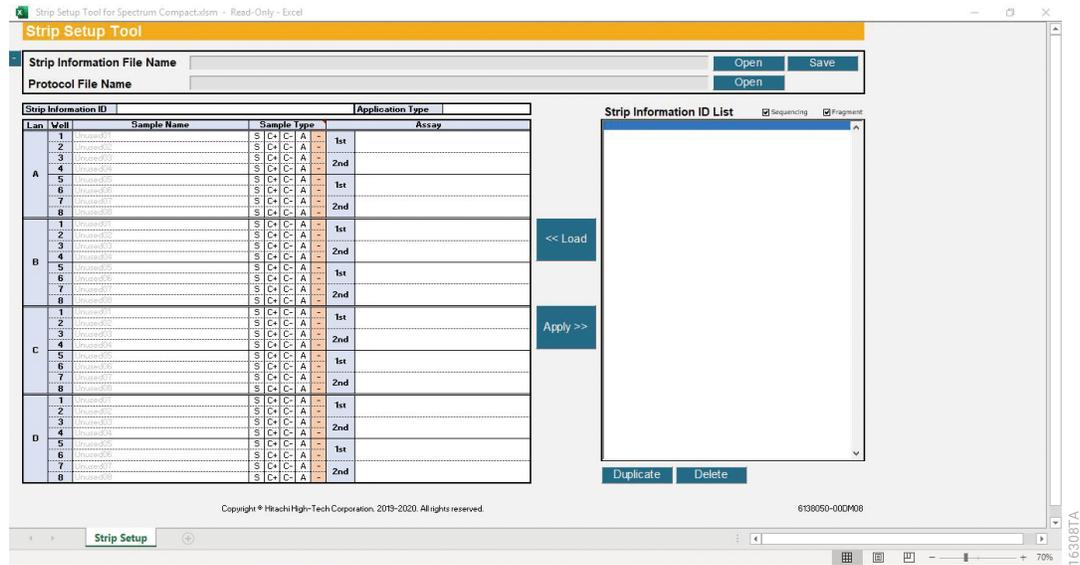
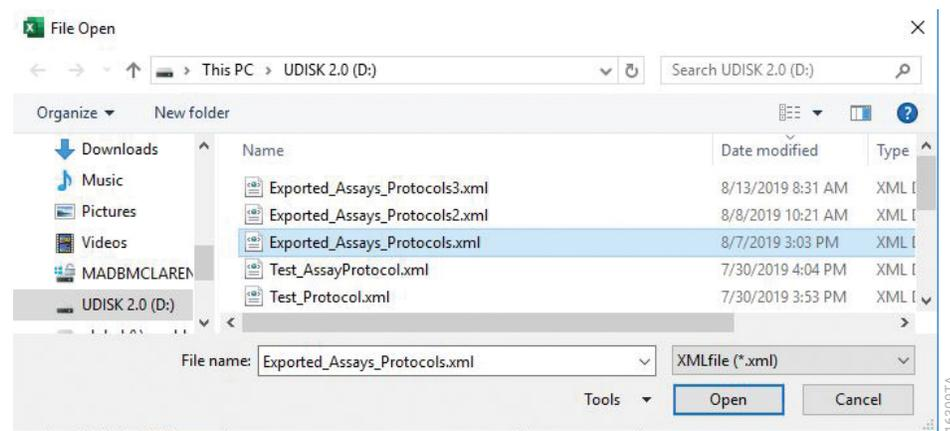

Figure 207. Strip Setup Tool for Spectrum Compact.
Figure 208. Browsing window.
1. Select **Open** on the right-hand side of the Protocol File Name box (Figure 207). This opens a browsing window. Browse to the location of the protocols .xml file created using the Protocols Setup Tool for Spectrum Compact and select **Open** (Figure 208). A Microsoft® Excel® window will appear stating “Protocol file read complete”.